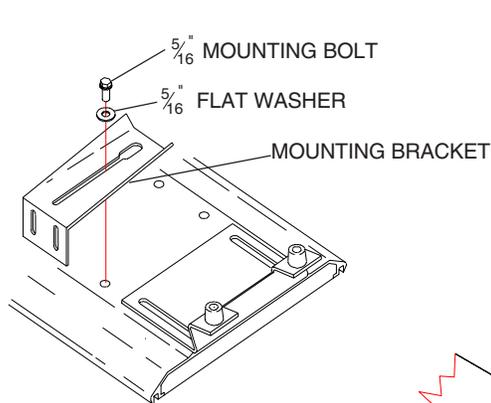
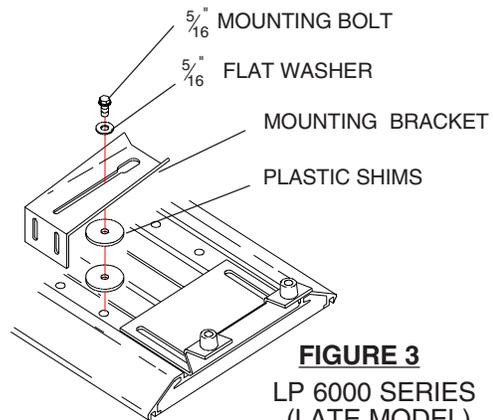

FIGURE 2
FIGURE 3
- 2) Determine whether you have an early or late model LP 6000™ Series frame. Early models are fairly smooth along the bottom (Figure 2). Late models have a depressed trough in the center of the base. (Figure 3).
- 3) Mount the ArrowStik® bracket on the front or rear of the LP 6000 Series frame as desired. If you have an early model LP frame, refer to Figure 2. If you have a late model LP frame, use of the plastic shims supplied in the parts bag will ensure level mounting of the ArrowStik (refer to Figure 3). In either case, leave the mounting bolts loose until step 7.